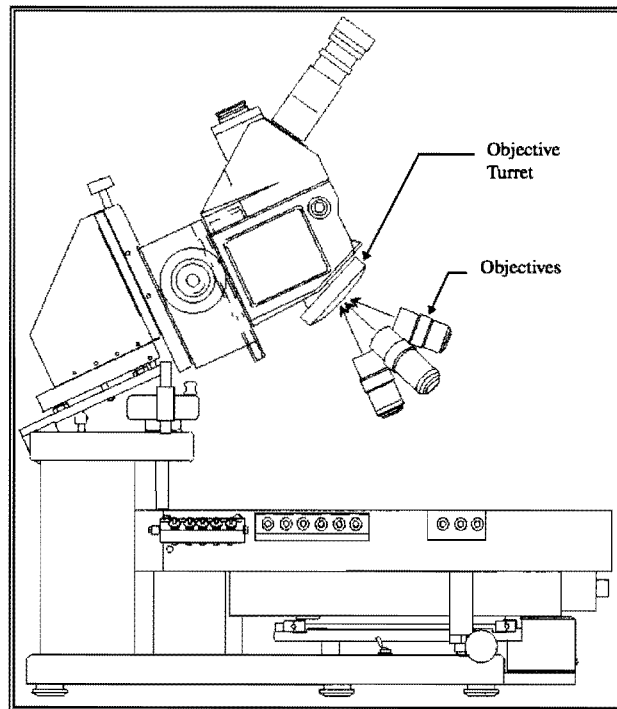

Figure 13
7. Screw in the objective(s) until they are tightly in place (finger tight only). Each objective has a colored band that correlates to a colored dot located on the microscope objective turret (see Figure 13).